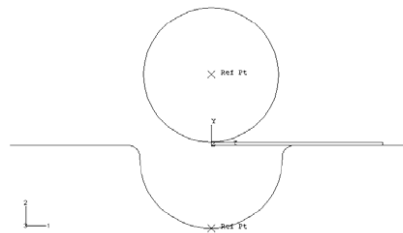

Figure 4: 2D geometry of the forming process
- Model the punch, sheet metal and die cross-section as shown in the figure 4.